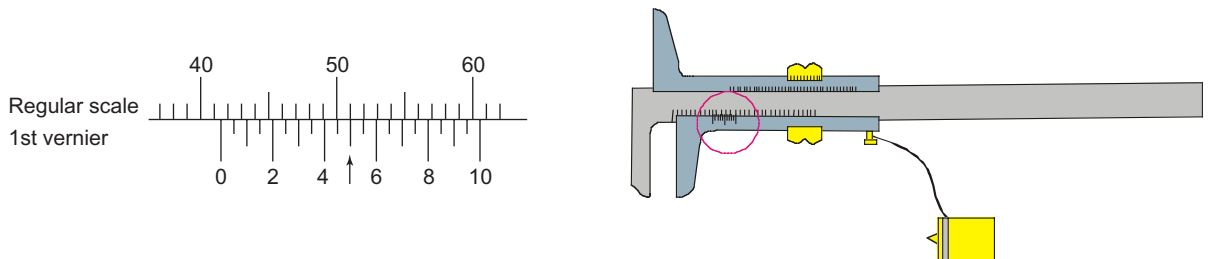

Fig. 1
- 1 Read the "0" position of the 1st vernier on the regular scale. In Fig. 1, the "0" position is located between the 41-mm and 42-mm scale divisions.
- 2 Find out where the scale of the 1st vernier coincides with that of the regular scale. In Fig. 1, the scale of the 1st vernier coincides with a division between the 4- and 6- divisions of the regular scale. Then, it can be seen that a division between the 41-mm and 42-mm divisions is 0.5.